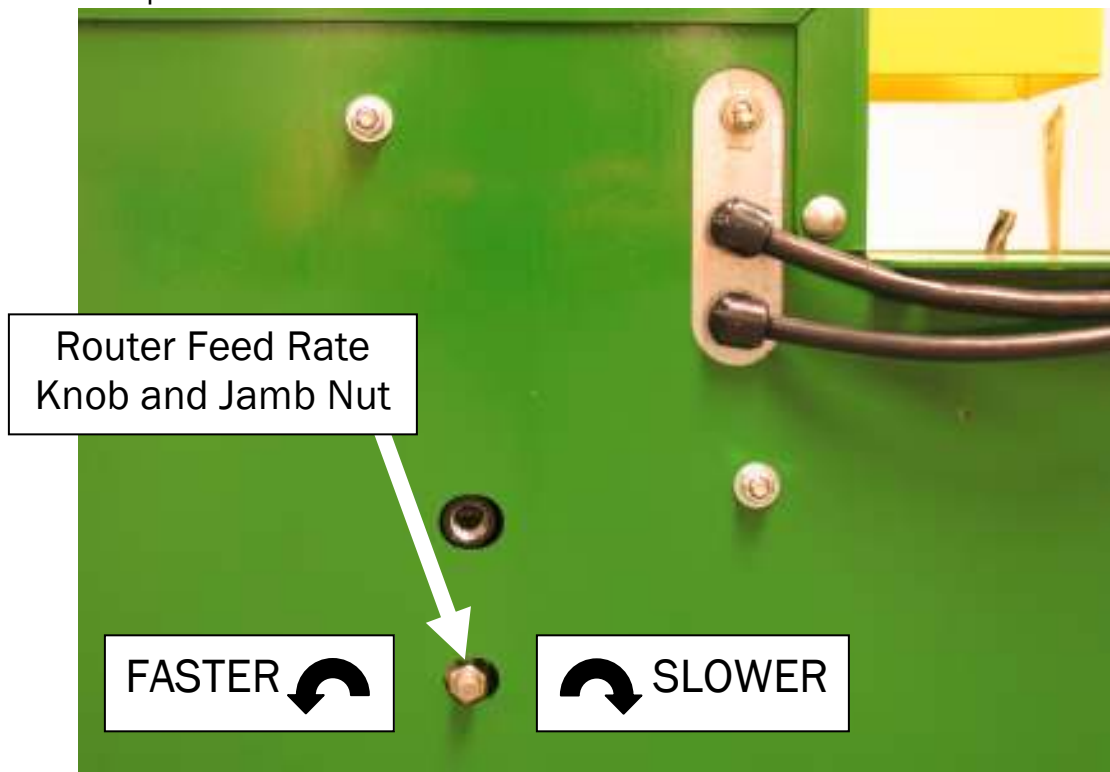

Figure 16
1. Locate the Feed Rate knob on the left of the case and fully loosen the Jamb Nut. **See fig. 16.**